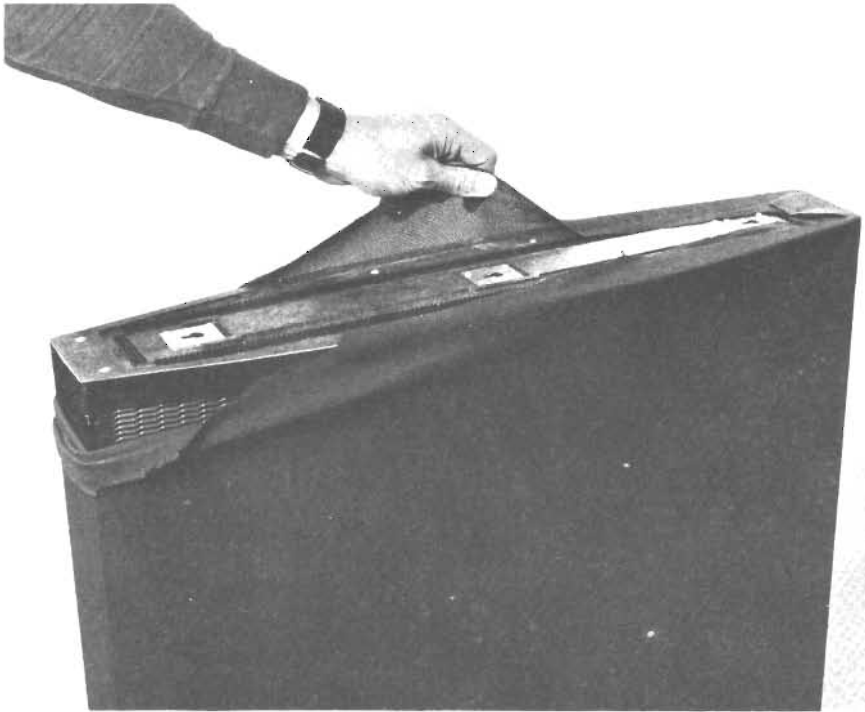

Fig. 8
- (a) Remove the wooden top from the loudspeaker by sliding it to the right (viewed from the front). Detach the grille cloth from the velcro hooks as shown in Fig. 8, and pull the cloth down taking care not to ladder it.